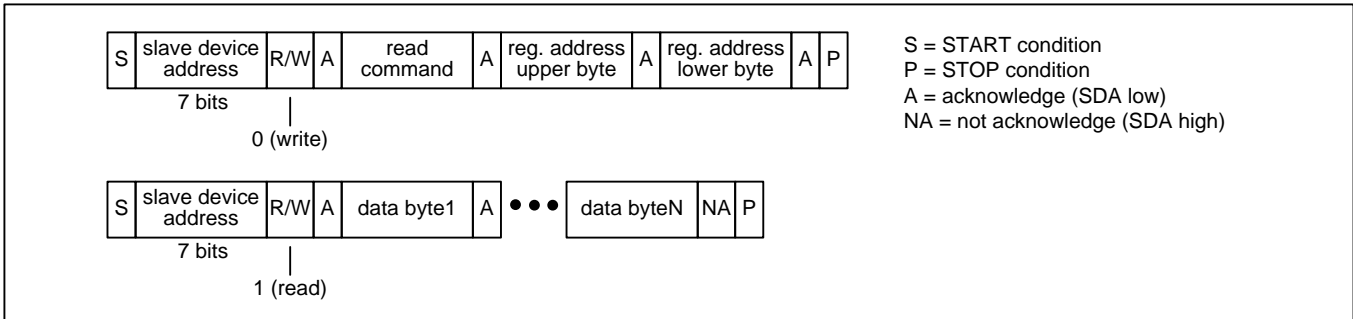
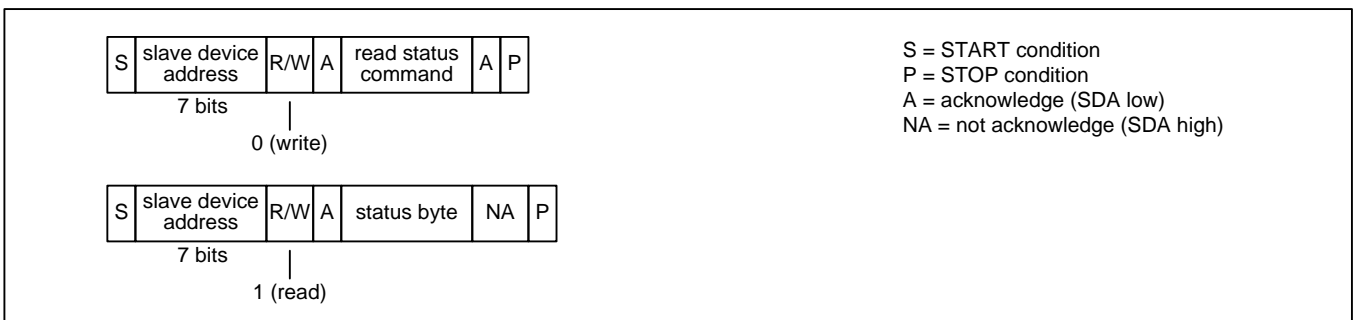

Figure 15 – I²C Read Transaction Functional Timing
Figure 18 – I²C EEPROM Read Status Transaction Functional Timing
Read Transactions. The device registers are accessible when $EESEL=0$. The internal EEPROM memory is accessible when $EESSEL=1$. The bus master first does an I²C write to the device. In this transaction three bytes are written: the SPI Read command (see Table 4), the upper byte of the register address, and the lower byte of the register address. The bus master then does an I²C read. During each acknowledge (A) bit the device fetches data from the read address and then increments the read address. The device then transmits the data to the bus master during the next 8 SCL cycles. The bus master terminates the read with a not-acknowledge (NA) followed by a STOP condition (P). See Figure 15. Note: If the I²C write is separated from the I²C read by other I²C transactions then the device only outputs the data value from the first address and repeats that same data value after each acknowledge (A) generated by the bus master.
EEPROM Read Status. The bus master first does an I²C write to transmit the SPI Read Status command (see Table 4) to the device. The bus master then does an I²C read to get the status byte. In this byte, the least significant bit is set to 1 if the transfer is still in progress and 0 if the transfer has completed. See Figure 18.
Note: In Figure 15 through Figure 18, a STOP condition (P) immediately followed by a START condition (S) can be replaced by a repeated START condition (Sr) as described in the I²C specification.